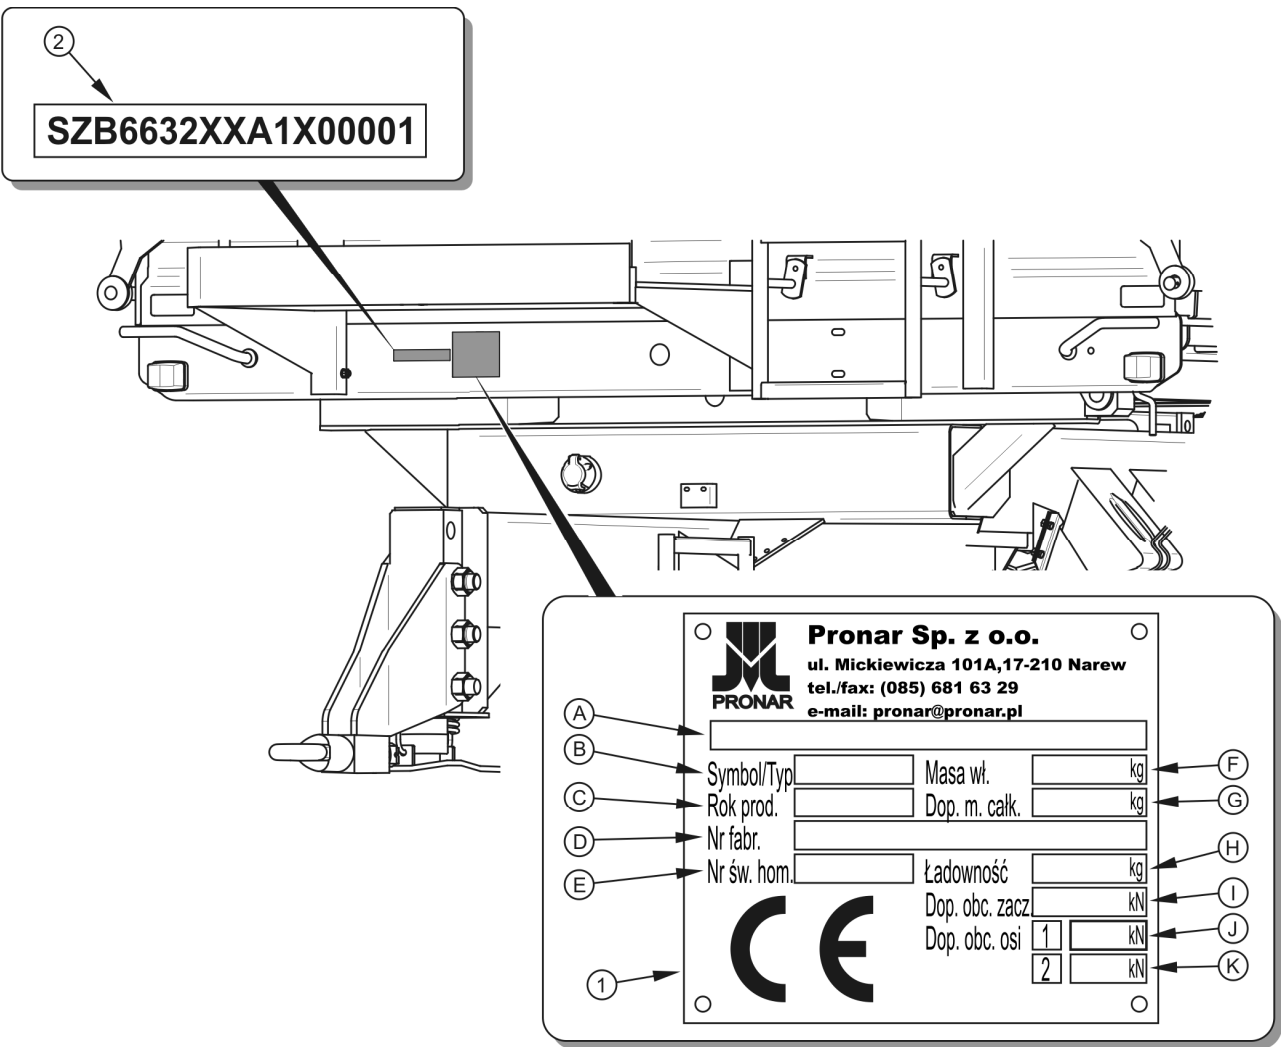

FIGURE 1.1 Location of the data plate and serial number
(1) data plate, (2) serial number
The trailer is marked with the data plate (1), and the factory number (2) located on a gold painted rectangle. The serial number and data plate are on the beam of the trailer's upper frame (Fig. 1.1). When buying the trailer check that the serial numbers on the machine agree with the number written in the *WARRANTY BOOK*, in the sales documents and in the *OPERATOR'S MANUAL*. The meanings of the individual fields found on the data plate are presented in the table below: